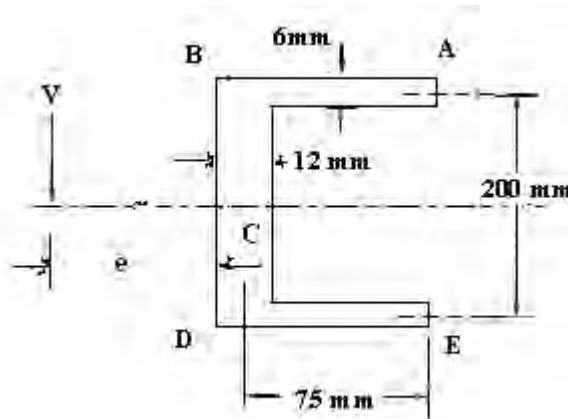

Figure 3:
3. The Unlipped extruded beam has the cross section shown in figure 3, determine: